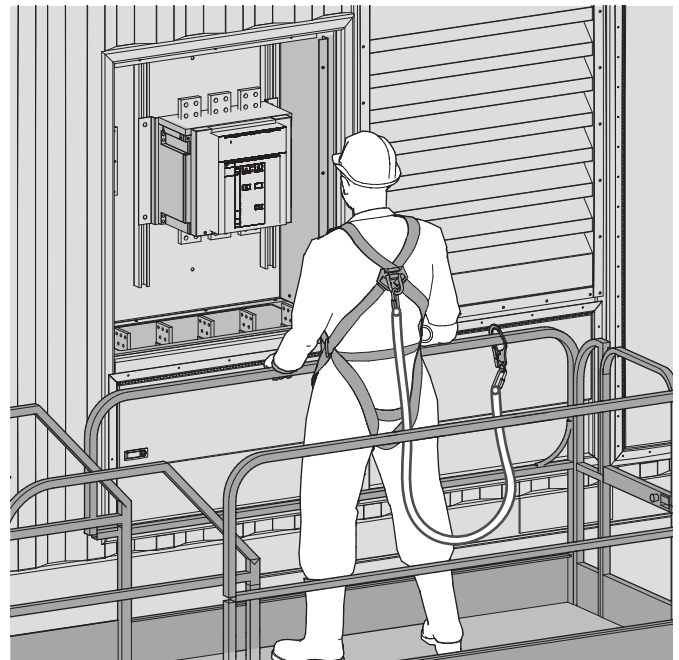

Figure 9. Fall Arrest System (Tethered Harness)
3. If the generator is trailer mounted, a lift or platform will be needed in order to access the main circuit breaker cabinet. See Figure 9.